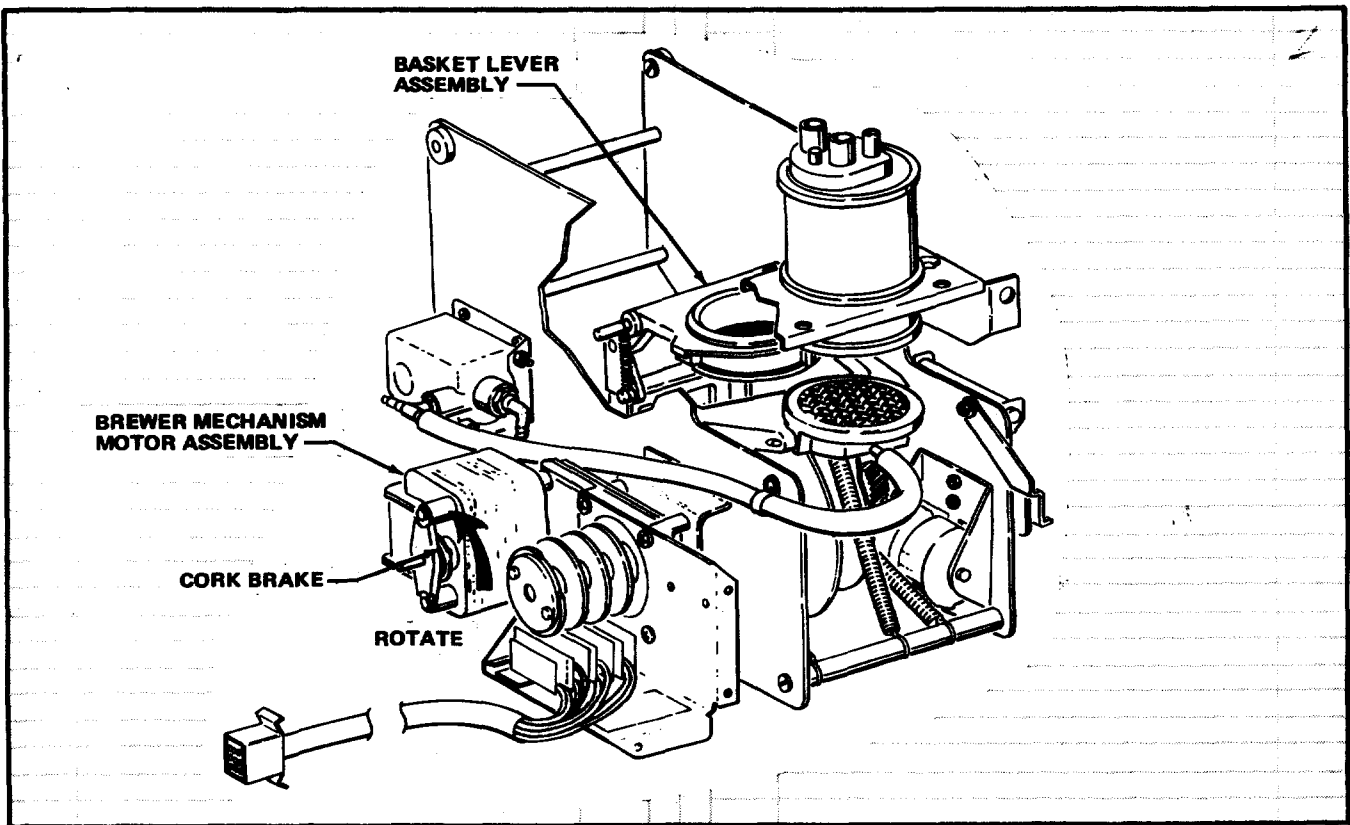

FIGURE 3
12. Manually rotate the Cork Brake on the Brewer Mechanism Motor Assembly in a counter-clockwise direction to fully open the Basket Lever Assembly. See Figure 3.
11. Manually rotate the Cork Brake on the Brewer Mechanism Motor Shaft in a counter-clockwise direction to fully open the Basket Lever Assembly. See Figure 3.